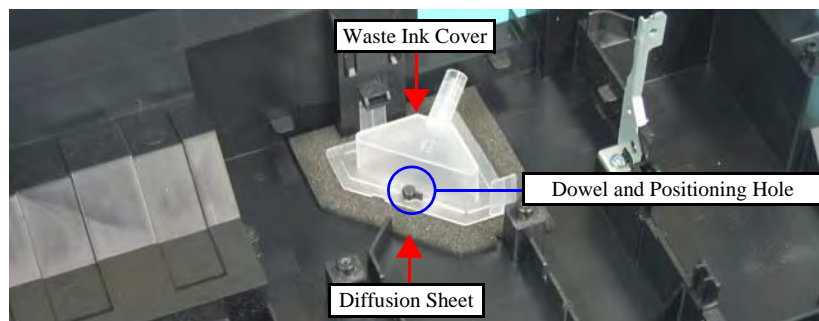

Figure 4-102. Removing the Waste Ink Cover and Diffusion Sheet
- When installing the Waste Ink Cover, be sure to align the dowel (x1) of the Base Frame with the positioning hole (x1) of the Waste Ink Cover as shown in Figure 4-102. Make sure to confirm the cover is properly secured on the Diffusion Sheet without any gap.